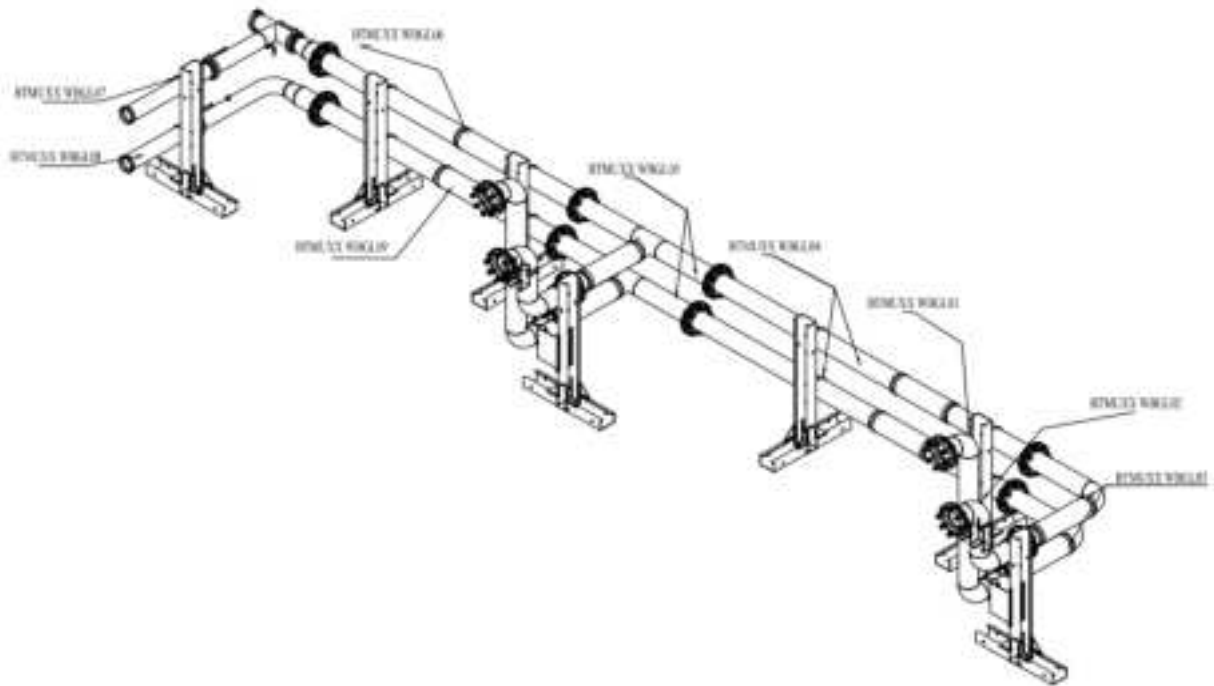

Figure 6-12 Pipeline installation detailed diagram
1) Connect the pipes and components in sequence according to the pipeline installation diagram Figure 6-12.